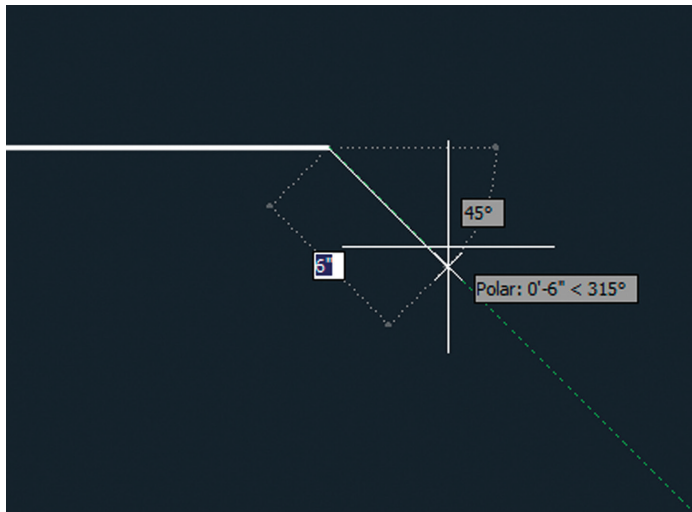

FIGURE 3.6 Drawing a line using Polar Tracking and PolarSnap
4. Move the cursor down at a 45° angle from east, and observe the Snap values that appear with Dynamic Input onscreen. Click when the value is 6" (or 150 mm) (see Figure 3.6).